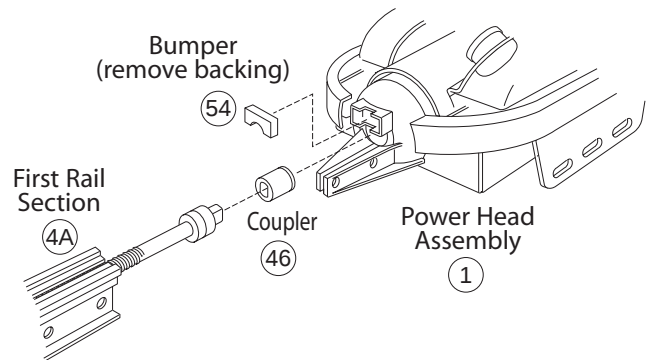

Figure 9 Install Bumper, Coupler and 1st Rail Section
- B** Install Bumper (**Figure 9**).
- C** Install Coupler on Motor Shaft (**Figure 9**).